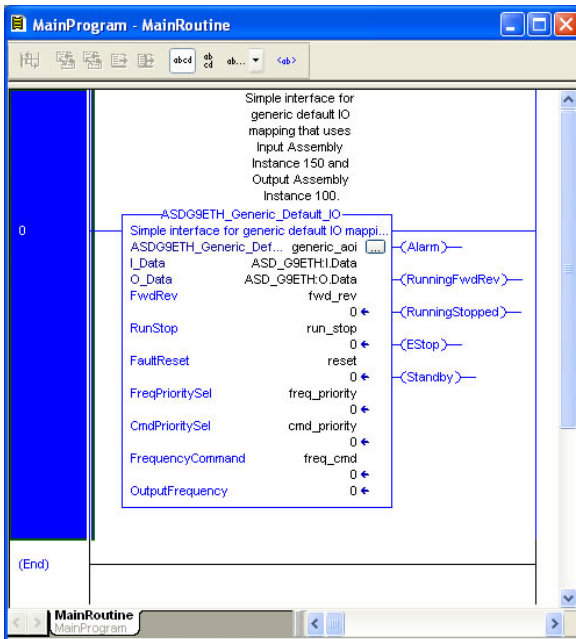

Figure 87: Configure Generic Default AOI
10) Edit the AOI according to Figure 87.